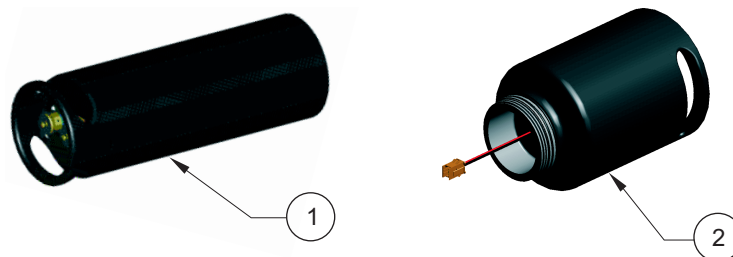

Figure 16 911 Flow Meter Case and Battery Packs
3. Reinstall the rechargeable battery. Attach the battery connector to the center mounted connector at the bottom of the 911 case (Figure 16).